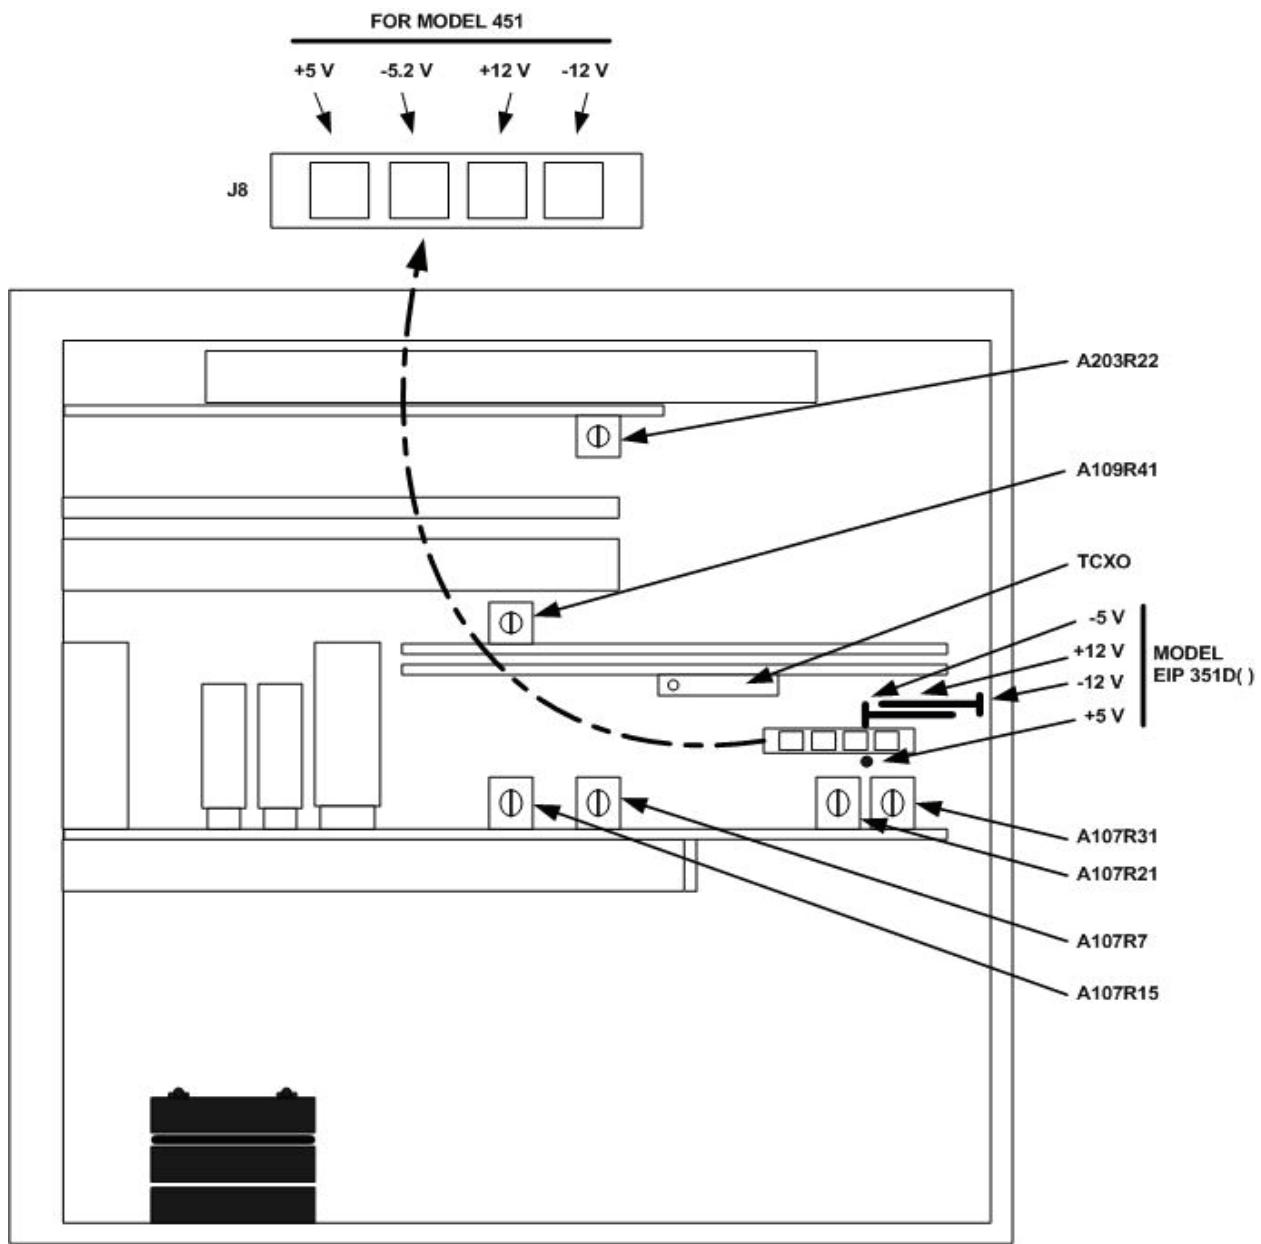

Figure 1. Test instrument - top view.
- (1) Connect multimeter between +12V test point (fig. 1) and chassis ground. If multimeter does not indicate between 11.99 and 12.01 V dc, adjust A107R7 (fig. 1).
- (2) Connect multimeter between +5V test point (fig. 1) and chassis ground. If multimeter does not indicate between 4.99 and 5.01 V dc, adjust A107R15 (fig. 1).
- (3) Connect multimeter between -12V test point (fig. 1) and chassis ground. If multimeter does not indicate between -11.99 and -12.01 V dc, adjust A107R21 (fig. 1).
- (4) Connect multimeter between -5V test point (fig. 1) and chassis ground. If multimeter does not indicate between -5.19 and -5.21 V dc, adjust A107R31 (fig. 1).
(1) Disconnect external time base input, if applicable, from rear panel **10 MHz** jack of TI, and set **TIME BASE INT-EXT** switch to **INT**.
(2) Connect time/frequency workstation **OUTPUT 1 MHz** to frequency difference meter **REF INPUT**.
(3) Connect TI **TIME BASE 10 MHz** (rear panel) to frequency difference meter **SIG INPUT**.
(4) Adjust TCXO (fig. 1) for frequency difference meter indication of less than 1 part in 10^9 .
(5) Disconnect frequency difference meter from TI.
(6) Replace external time base input if removed in (1) above and set **TIME BASE INT-EXT** switch to **EXT**.
(1) Set signal generator frequency to 100 MHz and level output to -15 dBm.
(2) Adjust A109R41 (fig. 1) until TI displays a stable count of applied frequency (R).
(3) Slowly reduce signal generator level output until TI display becomes erratic.
(4) Readjust A109R41 (fig. 1) until TI indication drops to all zeros.
- (1) Set signal generator frequency to 8 GHz and level output to -20 dBm.
- (2) Slowly reduce signal generator level output while pressing **RESET** switch until TI no longer accurately displays applied frequency.
- (3) Adjust A203R22 (fig. 1) until TI again displays a stable indication of applied frequency (R).
- (4) Repeat (2) and (3) above until TI displays a stable indication of applied frequency at -30 dBm or less input level.
Optimum setting of A203R22 (fig. 1) provides stable display of applied frequency at -30 dBm or less and an indication of 0 below the threshold level.
- (1) Connect multimeter between -5.2V test point (fig. 1) and chassis ground. If multimeter does not indicate between -5.19 and -5.21 V dc, adjust A107R31 (fig. 1).
- (2) Connect multimeter between -12V test point (fig. 1) and chassis ground. If multimeter does not indicate between -11.99 and -12.01 V dc, adjust A107R21 (fig. 1).
- (3) Connect multimeter between +12V test point (fig. 1) and chassis ground. If multimeter does not indicate between 11.99 and 12.01 V dc, adjust A107R7 (fig. 1).
- (4) Connect multimeter between +5V test point (fig. 1) and chassis ground. If multimeter does not indicate between 4.99 and 5.01 V dc, adjust A107R15 (fig. 1).